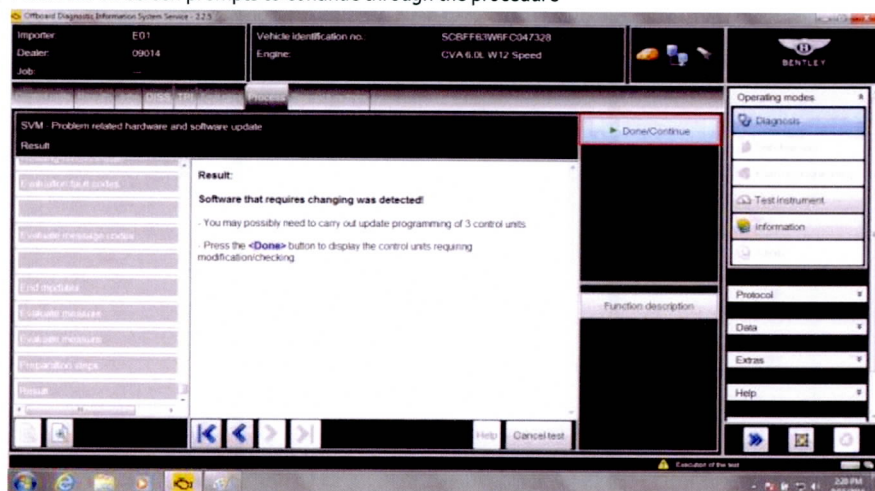

Figure 4
13. Once software that requires changing is detected, 3 units, select *Done/Continue* (see Figure 4) Note: each of the 3 control units will be offered for software update individually by the program. Follow prompts the online connection will deliver the required software to the tester